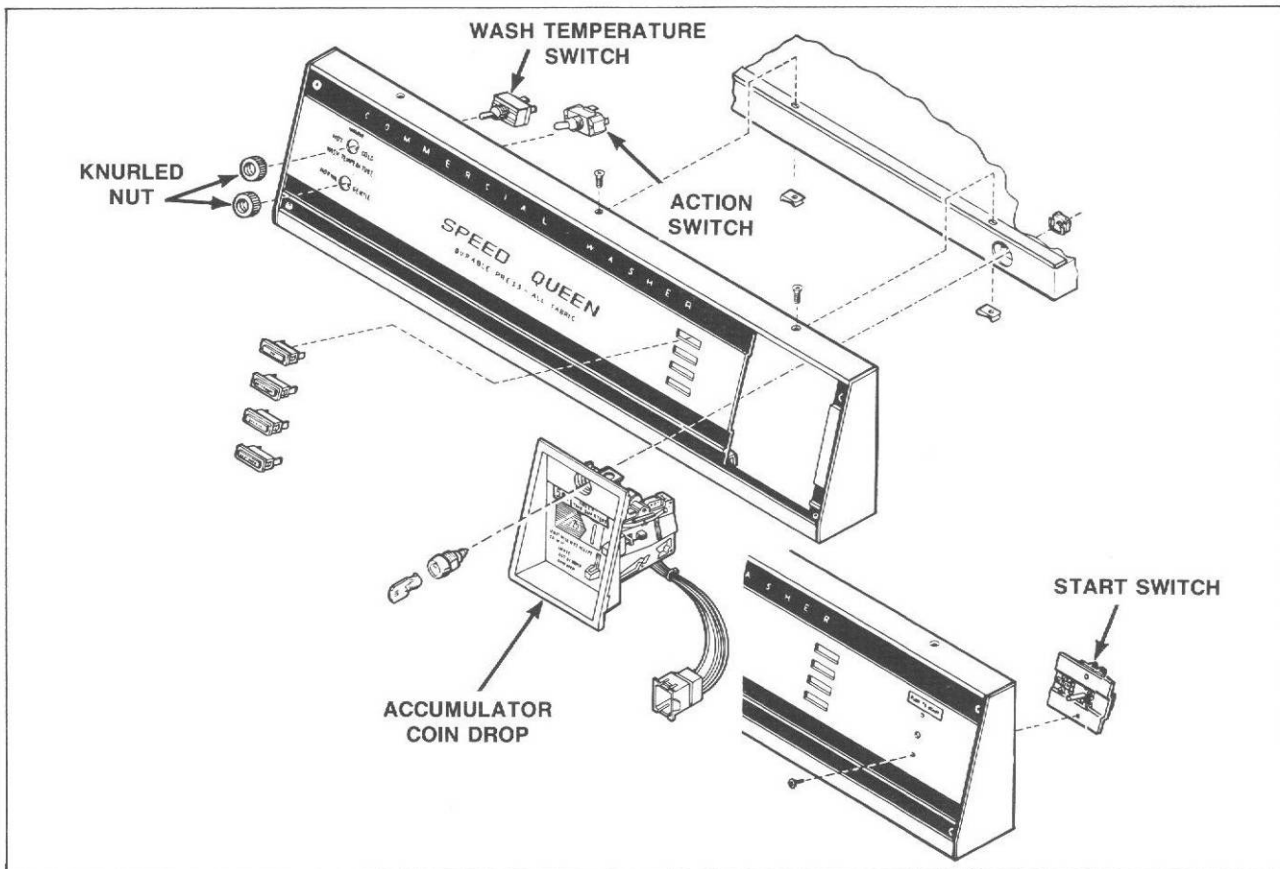

Figure 1
### 1. ACCUMULATOR COIN DROP — Metered Models (Refer to Figure 1)
**2. START SWITCH — Nonmetered Models** (*Refer to Figure 1*)
**3. CONTROL PANEL ASSEMBLY** (*Refer to Figure 1*)
**4. ON, DETERGENT, BLEACH OR SOFTENER LIGHT** (*Refer to Figure 1*)
**5. WASH TEMPERATURE OR ACTION SWITCH** (*Refer to Figure 1*)